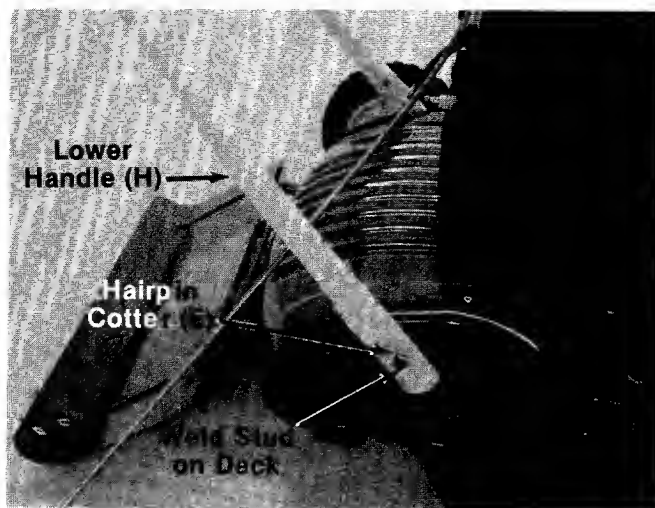

FIGURE 3.
- 3 . Place lower handle (H) in position over studs located in front of each rear wheel mounting position. Secure with hairpin cotter (E) provided in hardware pack. See figure 3.
Figure 3 was photographed with the rear wheel removed for clarity. It is not necessary to remove wheel for handle assembly.
Adjustment may be made by removing and moving wheel studs to desired position. Cutting heights will be raised as wheel studs are moved to a lower hole and lowered as wheel studs are moved to a higher hole in the deck. All wheel studs must be mounted in a relative position to the deck. See figure 3.